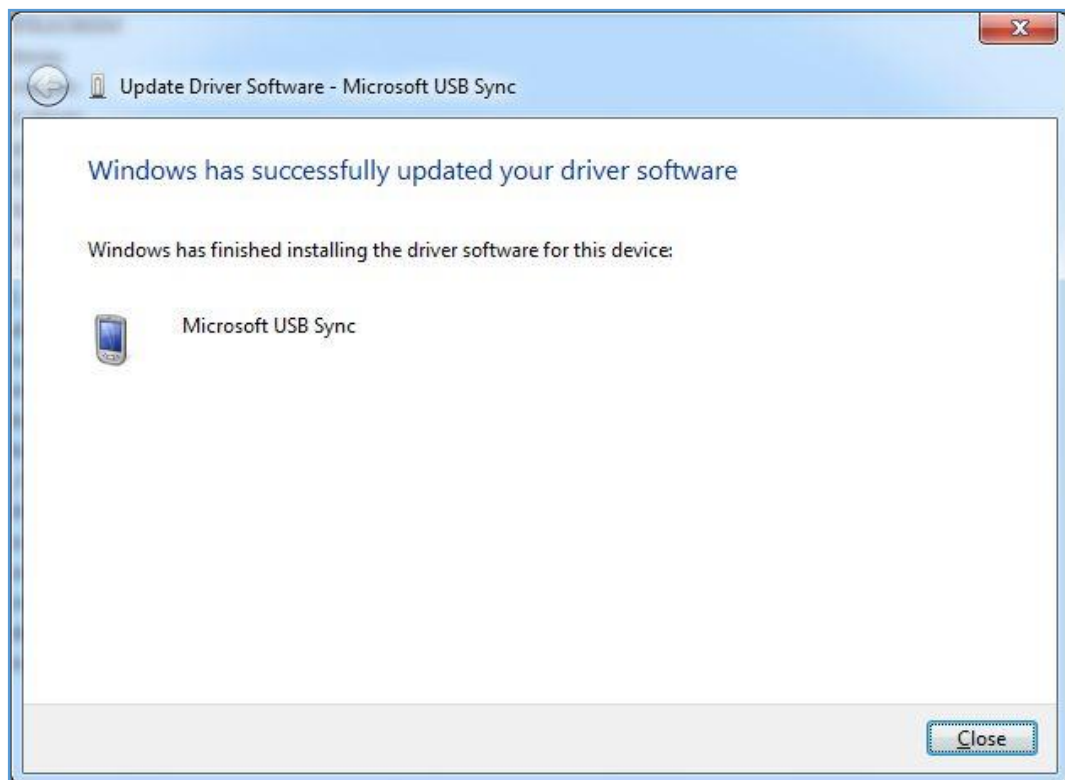

Figure A-17: Driver update complete
- When the driver has successfully updated, the following screen as shown in Figure A-17 displays.